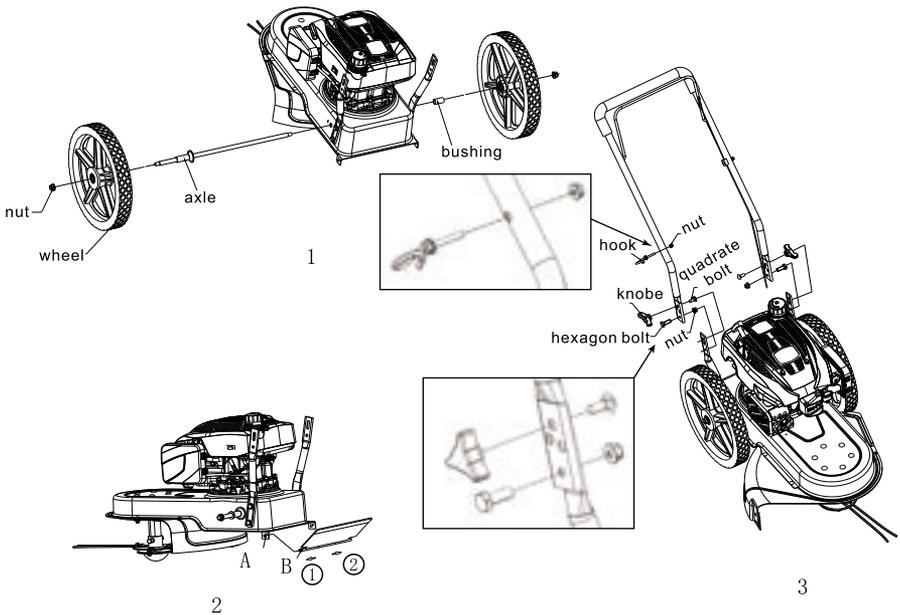

Figure 3-1.
2. Assembling the fenders align A and B then follow step ①②;
3. Assembling the handle. See Figure 3-1.